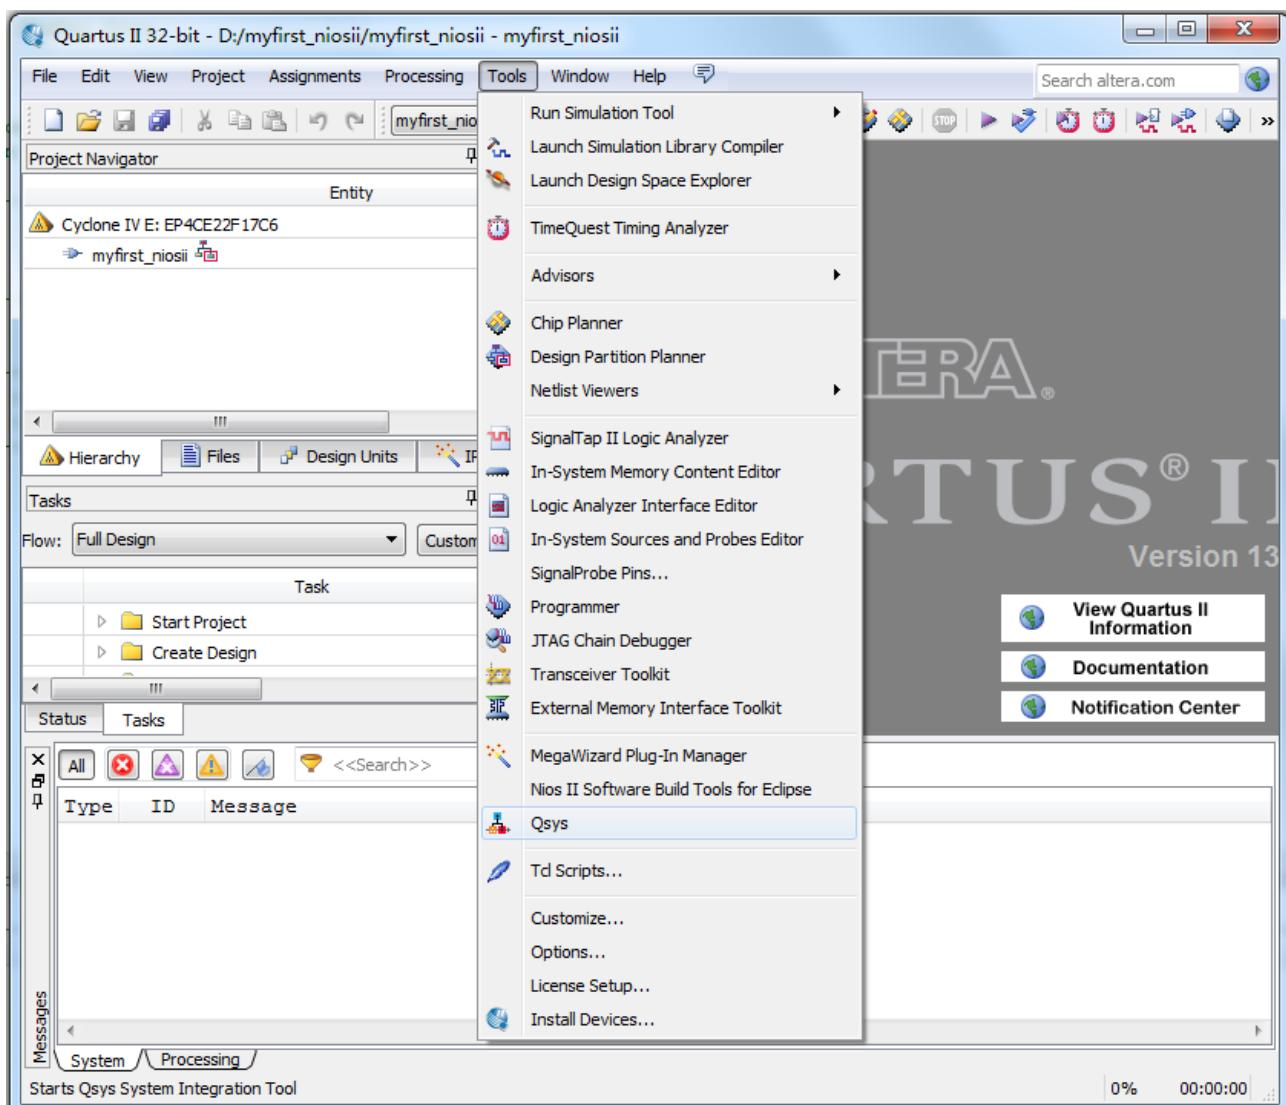
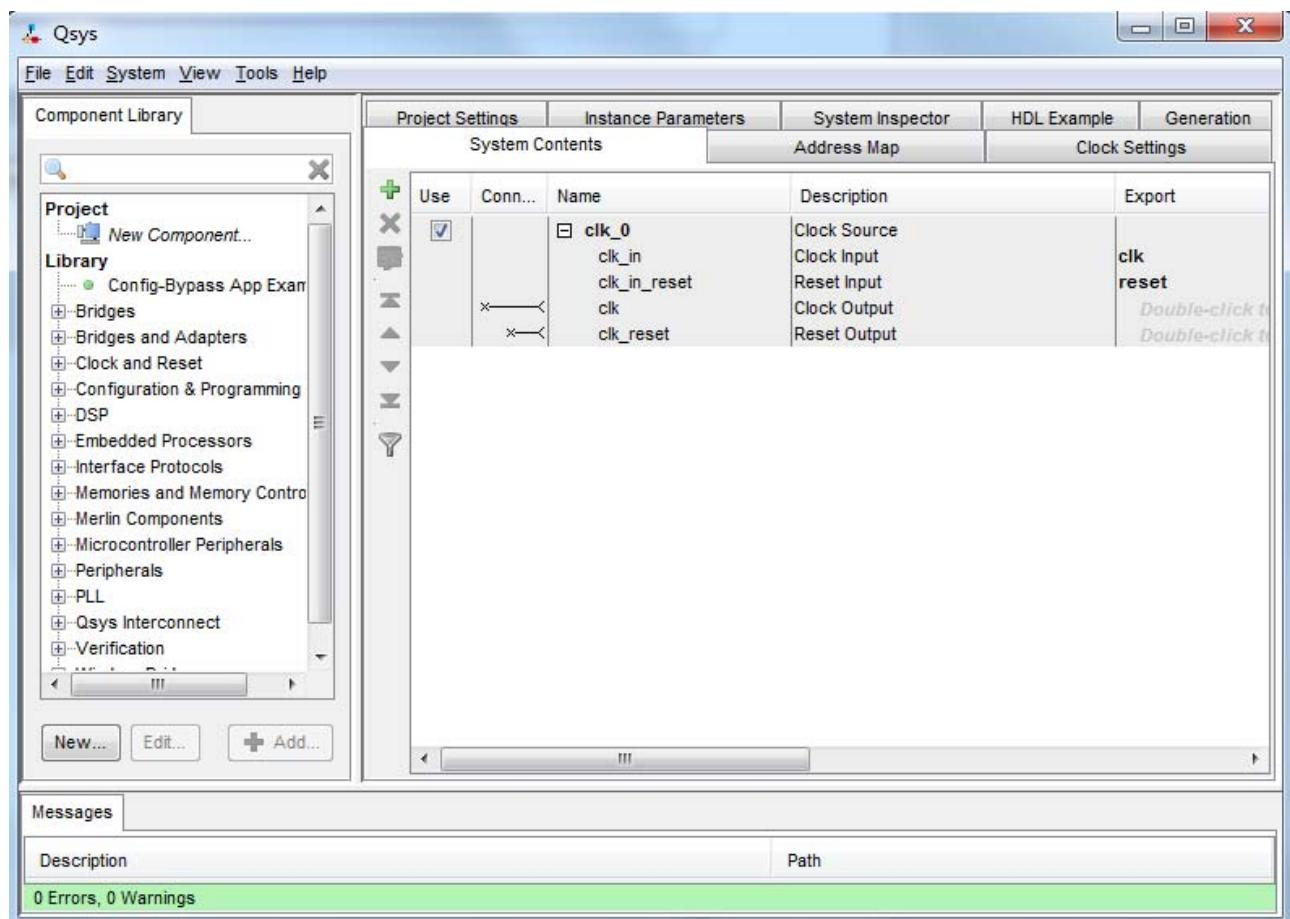

Figure 1-9 Qsys Menu
Figure 1-10 Create New Qsys System
5. Choose **Tools > Qsys** to open new **Qsys** system wizard . See **Figure 1-9** and **Figure 1-10**.